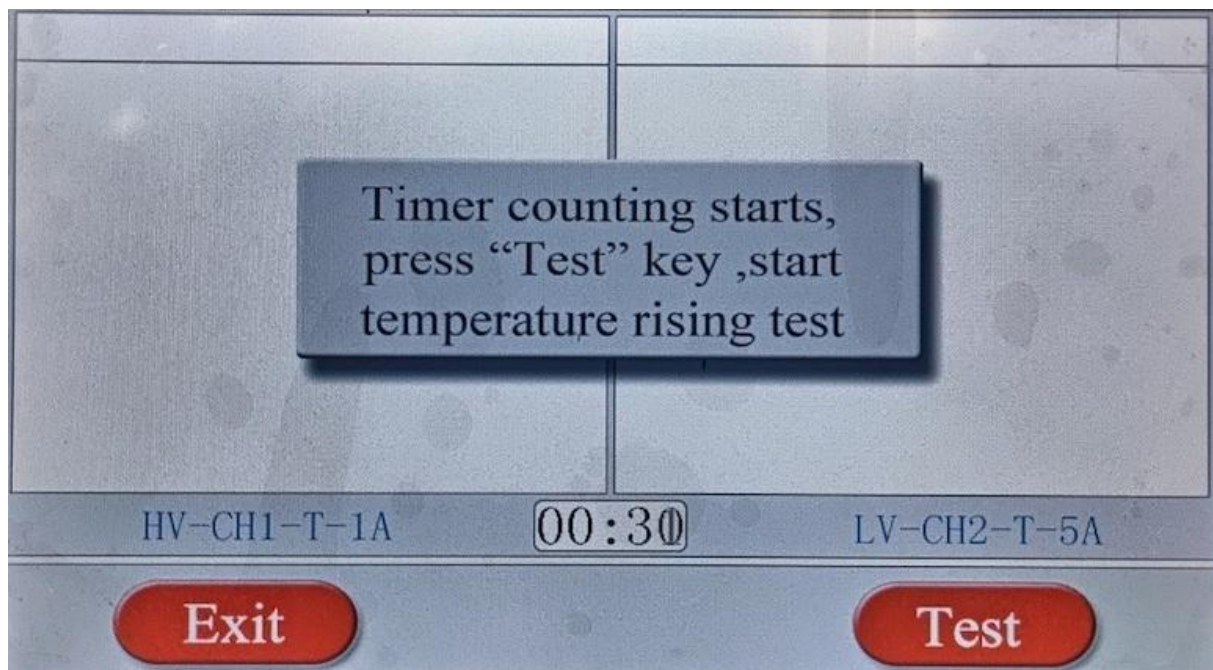

Figure 8 (Temperature rise timing interface)
- 4. Temperature rise testing:** After the channel and corresponding current are selected at temperature rise mode, touch the "Timing" key to start temperature rise timing, (shown as figure 8) now timing starts and wait to test. When timing is exited, touch the "Exit" key to complete timing process, and return back to the selection setting interface. Complete wiring. Touch the "Testing" key and start enter into the temperature rise testing interface, and start temperature rise testing (shown as figure 9). The display screen indicates charging current value according to corresponding channel and informs "Charging ..." at same time. After charging current is complete and stable, inform "Testing". When testing current value and resistance value are stable, the instrument continues testing. Now save and print temperature rise data automatically as setting time. The instrument will inform timing collection results of last two times